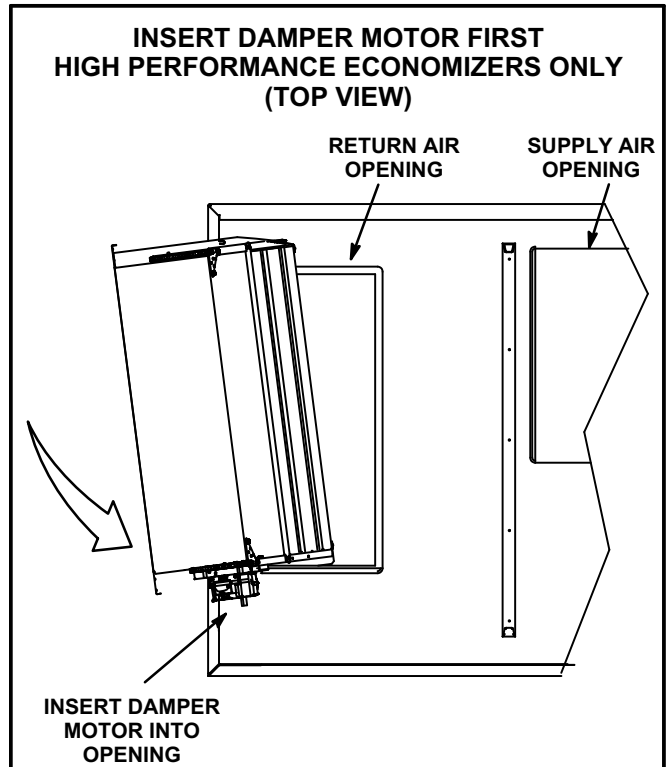

FIGURE 2
- 3- *High Performance Economizers Only* - Install damper assembly by inserting the damper motor first. See figure 2.